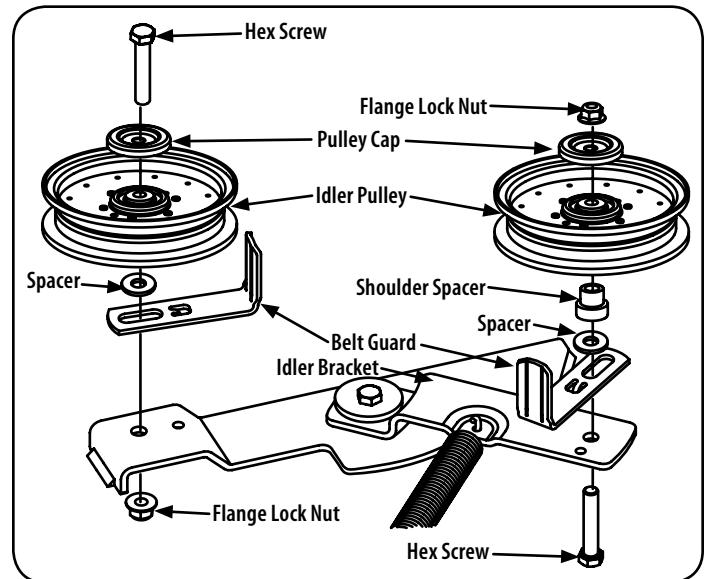

Figure 41
- a. Remove the movable idler pulleys and belt guard on the left pulley by removing the hex screws, pulley cap and flange lock nuts that secure them to the idler arm and deck. See Figure 41. Do not lose any of the hardware when removing the hex screw, belt guard, pulley cap, spacer, shoulder spacer and flange lock nut.
- d. Place the belt around the idler pulleys removed in step 3 with the "V" side facing in. Once in place, reinstall all the hardware and tighten the flange lock nut to secure the assembly. See Figure 41.